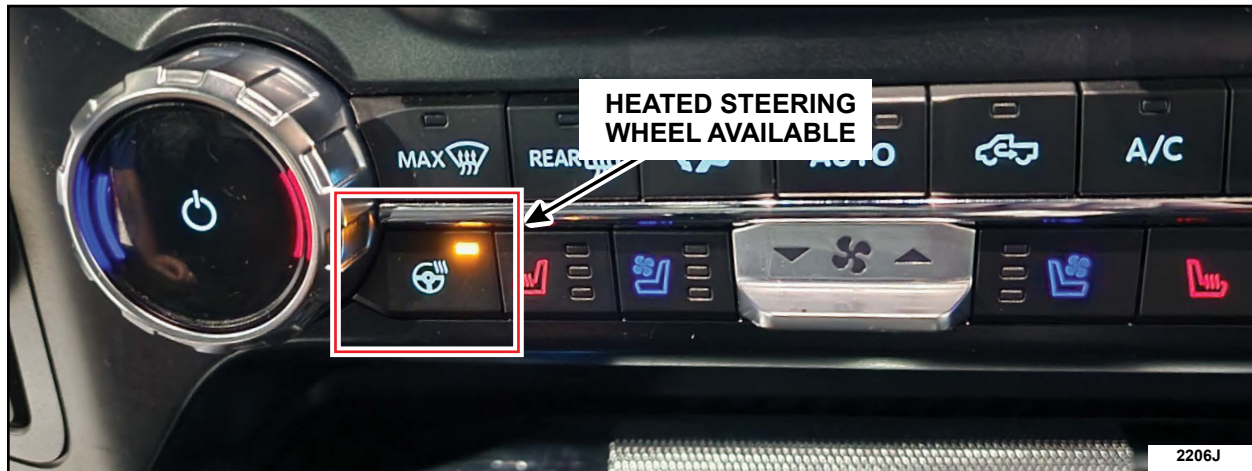

FIGURE 16
18. Start vehicle and verify that the heated steering wheel is functioning. See Figure 16.